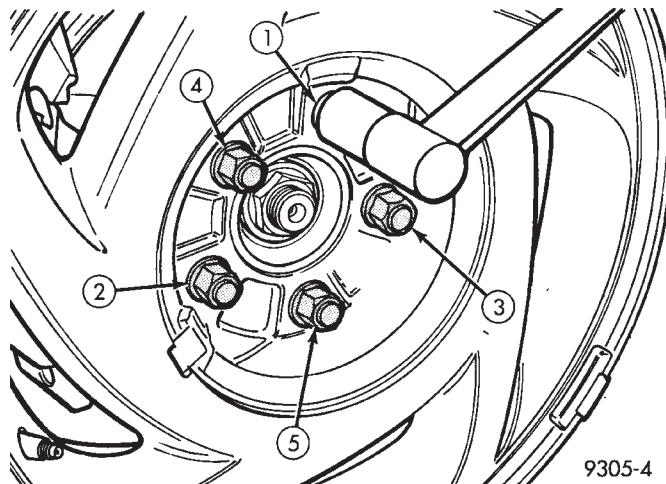

Fig. 13 Tightening Wheel Nuts
(6) Install wheel and tire assembly on vehicle. Tighten the wheel mounting stud nuts in proper sequence (Fig. 13) until all nuts are torqued to half specification. Then repeat the tightening sequence to the full specified torque of 129 N•m (95 ft. lbs.).
(7) Lower vehicle to the ground.